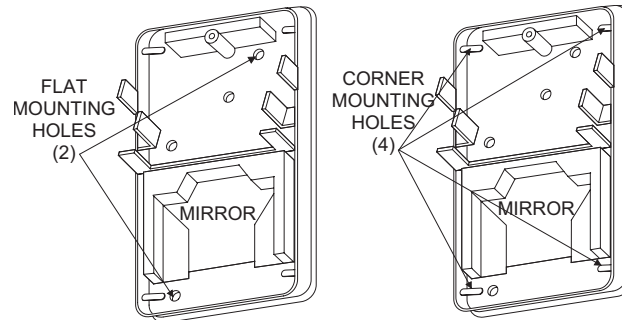

Figure 6. Mounting Hole Locations
3. Mount the sensor on a flat wall or in a corner, using the appropriate mounting holes (see Figure 6). Use wall anchors and screws to secure the sensor.